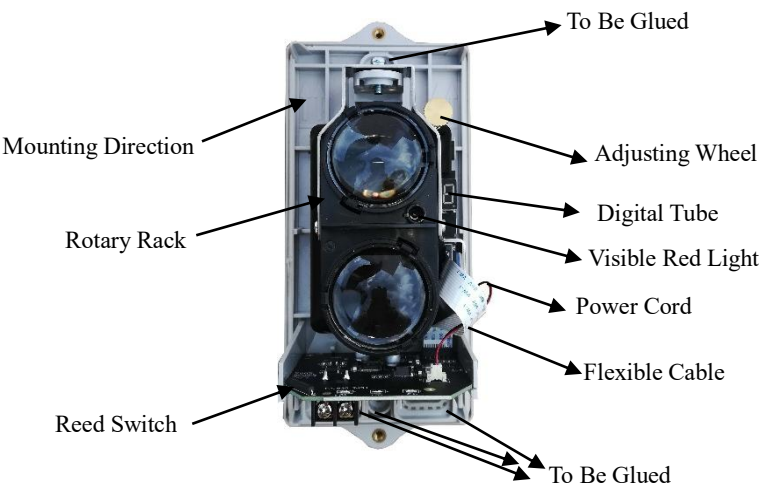

Fig. 2.
2) Components inside the detector and positions with glue are shown in Fig. 2.
Note: As the detector is mounted in the special environment such as dust, damp, three positions as shown in Fig. 2 should be sealed with glass glue or 703 silica gel after fixing and wiring, ensuring the detector works stably.